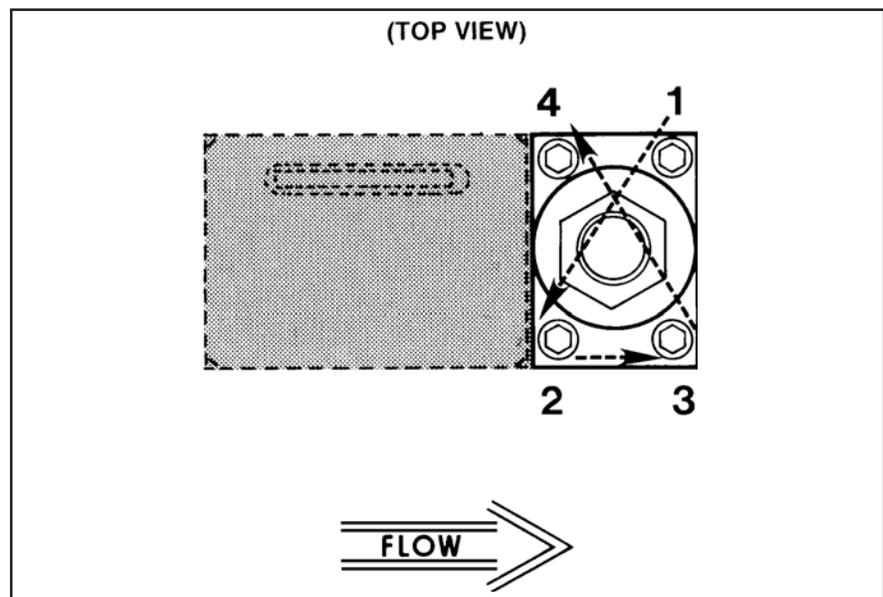

Figure 4-1 Torque Sequence for the Valve Retainer Plate
3. Press the lubricated sensor O-rings (17) into the flow controller body (14). Install the sensor assembly and secure with two screws (18) and washers (19) tightened to 15 in/lbs.
4. Install the orifice (12) and its O-ring (13), using a 3/8 nut driver. Insure that the orifice is fully seated but do not overtighten.
5. Insert the valve preload spacers (10)(NC Valve) or (33)(NO Valve), if used, into the valve cavity in the flow controller body (14). Use care to preserve the correct order.
6. Place the spacers (9) and spring (8) on the valve seat (11) in the same order as noted in step 8 of the disassembly. Screw the valve seat (11) into the plunger assembly (7)(NC Valve) or (35,31,32)(NO Valve). Tighten the assembly until there is no looseness, but do not overtighten.
7. Install the valve plunger assembly (7, 8, 9 and 11)(NC Valve) or (35,31,32,8,9,11)(NO Valve) on the preload spacers (10). Install air gap spacers (10), if used on top of the valve spring.
8. Install the valve stem assembly (6), secure with the valve retaining plate (4) and four hex socket screws (3). When installing the screws they should first make light contact with the plate, which should be checked to insure that it makes full contact around the stem assembly. Torque
- the screws securing the valve retaining plate in diagonal pattern (Refer to Figure 4-1) to 17 in/lbs.
9. Install the coil assembly (2) over the valve stem assembly (6)(NC Valve) or (34)(NO Valve) install extension spacer nut (3)(NO Valve) and secure with jam nut (1).
10. Install the printed circuit (PC) Board (15), secure with the bracket (24) and two screws. Plug the connector from the sensor assembly onto the PC Board. The flow arrow on the connector should be pointing toward the valve assembly.
11. Install the electronics cover (23) on the controller, secure with three screws (20). Plug the connector from the valve coil into the PC Board through the hole in the electronics cover.